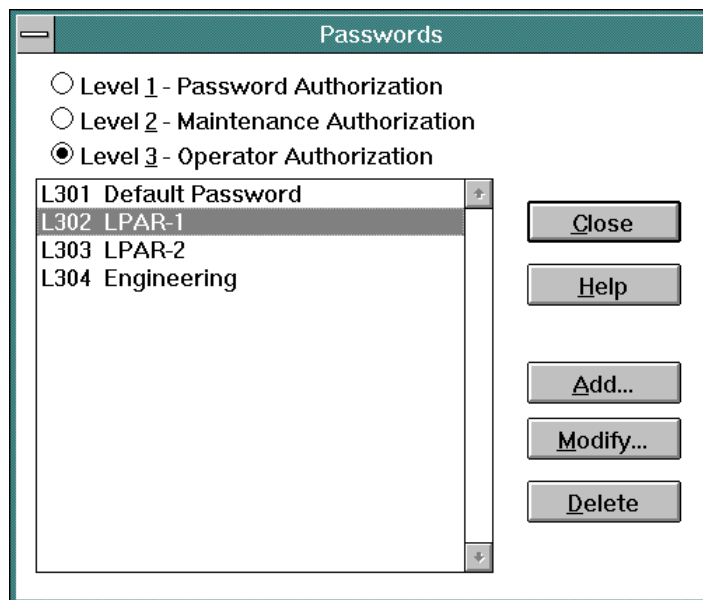

Figure 175. Passwords Dialog Box
2. Type an administrative authorization password (default is **LEVEL001**) and click the *OK* button. The *Passwords* dialog box appears (Figure 175). The dialog box provides a radio button selection for each password level.
2. Type an administrative authorization password (default is **LEVEL001**) and click the *OK* button. The *Passwords* dialog box appears (Figure 175 on page 175). The dialog box provides a radio button selection for each password level.